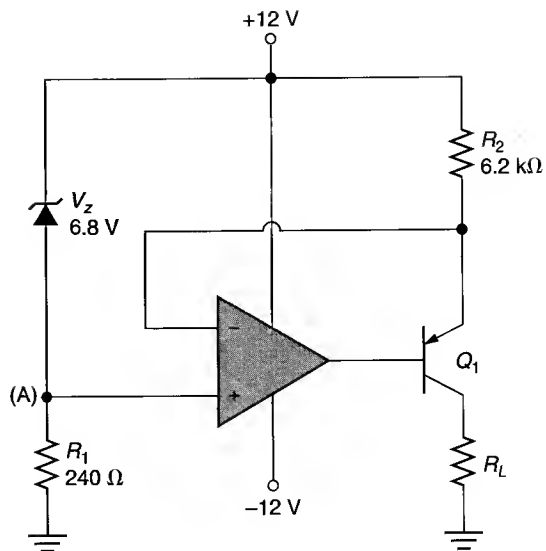

FIGURE 16.47
25. The circuit in Figure 16.47 has the component values shown. Determine the value of V_{CE} for $R_L = 1\text{ k}\Omega$ and $R_L = 3\text{ k}\Omega$.